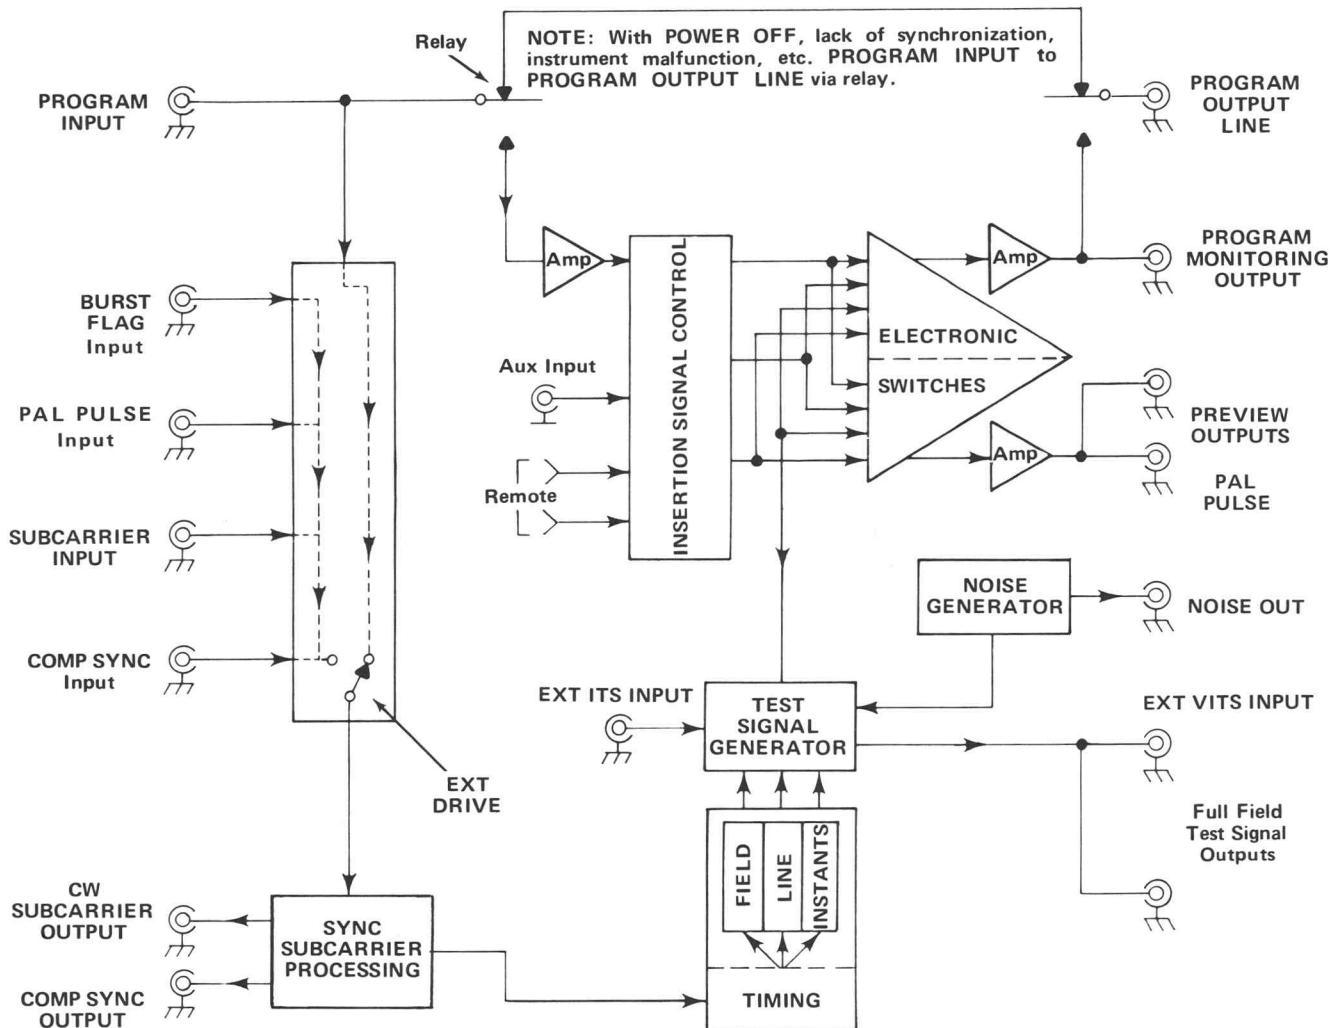

Fig. 3-1. Basic block diagram of the 148-M.
The 148-M can be considered as in Fig. 3-1. Basically, the 148-M consists of (1) A relay to provide bypass in the event of loss of power or when the instrument is in the bypass or auxiliary modes, (2) Sync and Subcarrier processing circuits to detect synchronization information, (3) Timing circuits to provide gate signals used for generation of the output signals, (4) Test Signal Generator to generate the various output signals, (5) Program Control Switching to allow the operator to select the mode of operation, (6) Electronic Switches to route all signals to the proper outputs at the proper time, and (7) Output Amplifiers to provide sufficient current to drive the outputs.
The block diagram relates the schematic circuitry to the operation of the 148-M, and is a transition between Fig. 3-1 and the schematic diagrams.